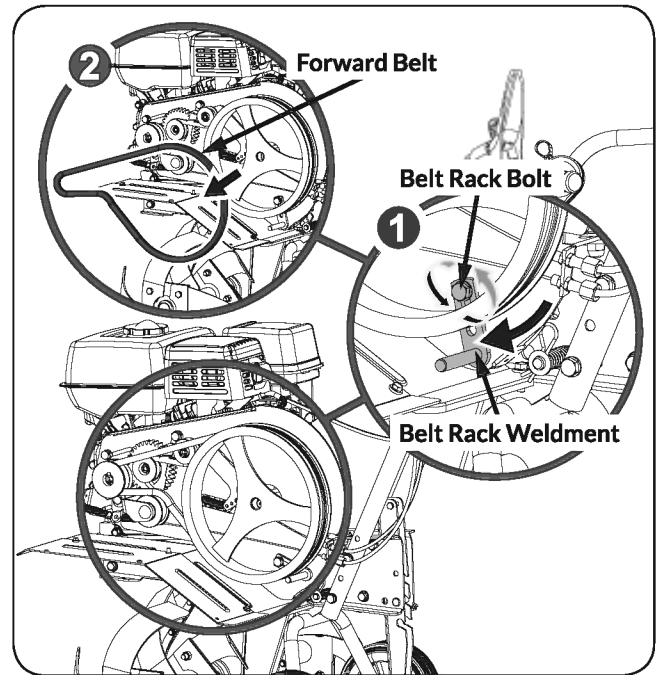

Figure 18
2. Loosen the bolt that holds the belt rack weldment. (See **Figure 18**, Illustration 1)
3. Remove the V-belt and set aside. This V-belt control the blade to rotate forward. (See **Figure 18**, Illustration 2)